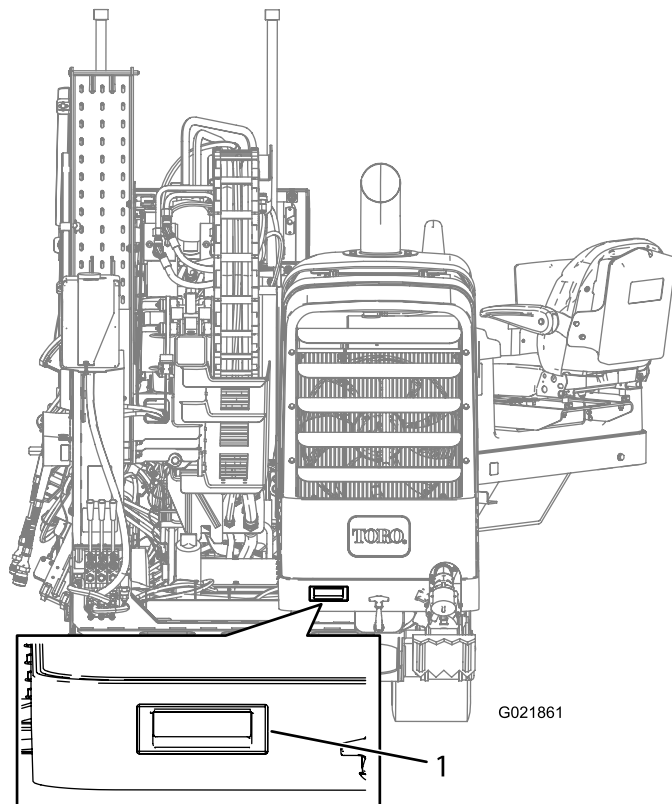

Figure 96
3. Lift up the handle as shown in Figure 96.